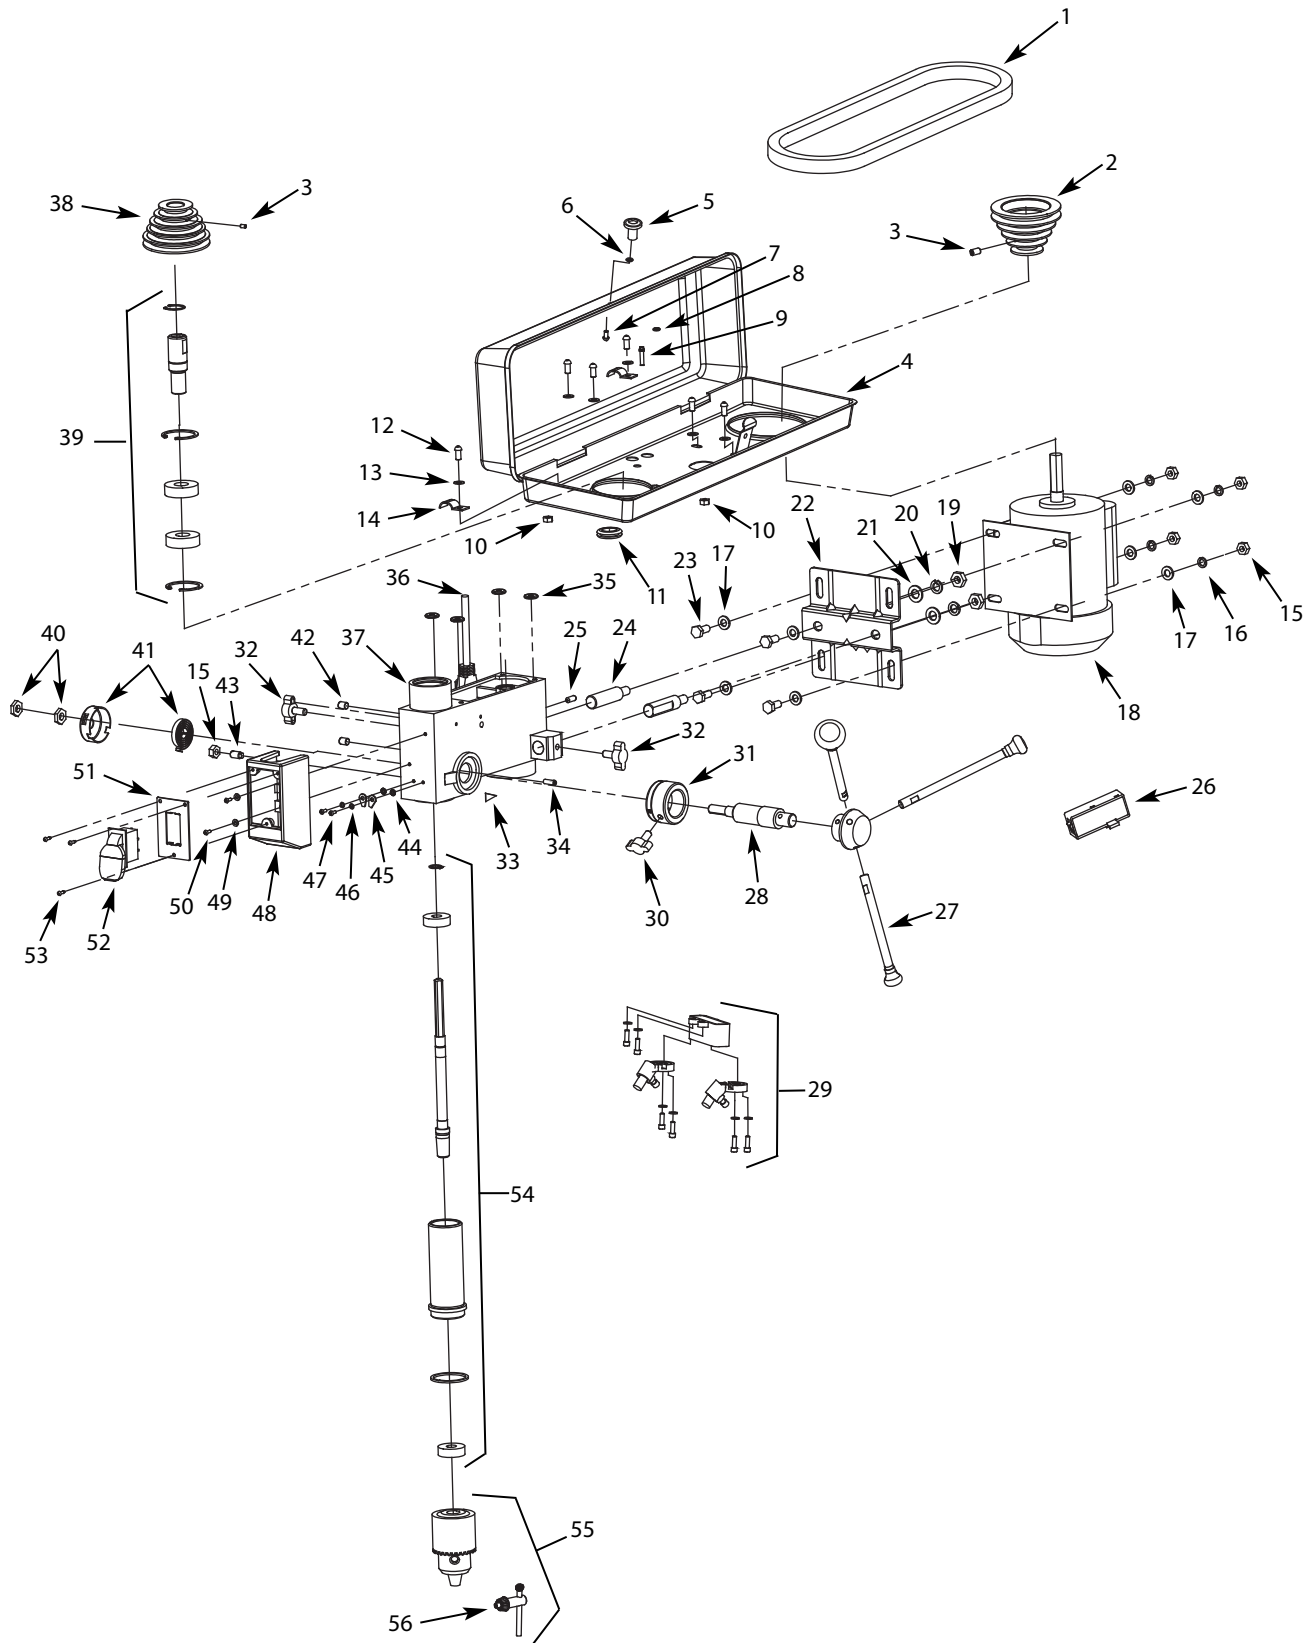

Figure 6 - Replacement Parts Illustration for Head
Refer to Figure 6.
- Lower quill assembly (Figure 6, Ref. No. 54) all the way down.
- Apply lubricant around the inside of the hole in the spindle pulley (Figure 6, Ref. No. 38).